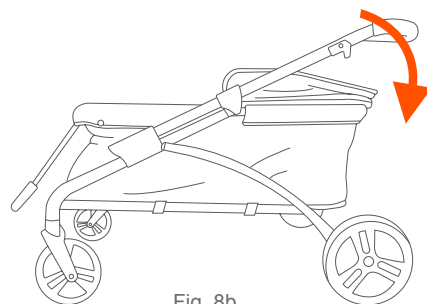

Fig. 8b
- To fold the stroller, press the button on the left trigger, while pulling both release triggers simultaneously (Fig. 8b) and push the handle toward the floor.